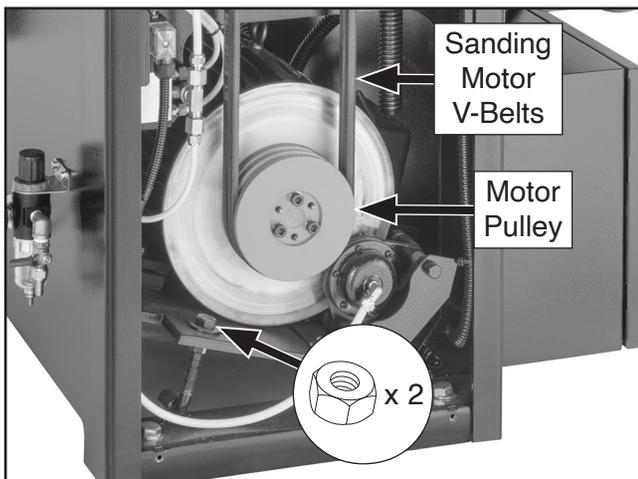

Figure 69. Sanding motor V-belt components.
3. Rotate (2) V-belt tension nuts (see **Figure 69**) counterclockwise to release V-belt tension until you can remove V-belts from motor pulley.